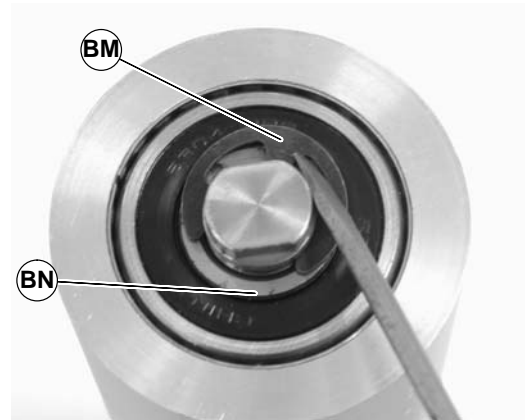

Figure 76
5. Remove the pulley shaft assembly: remove the clip ring (BM of Figure 76) and washer (BN) from one side of the pulley assembly.